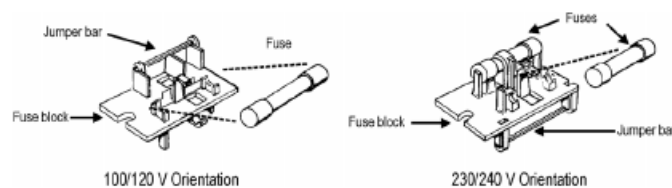

Figure 6. Fuse block orientation for 100/120 VAC and 230/240 VAC operation.
The power entry module accommodates two fusing arrangements, as illustrated in Figure 6.
- Change or add the correct fuses as necessary, refer-ring to Figure 6. Refer to the instrument rear panel for the correct fuse electrical current rating.